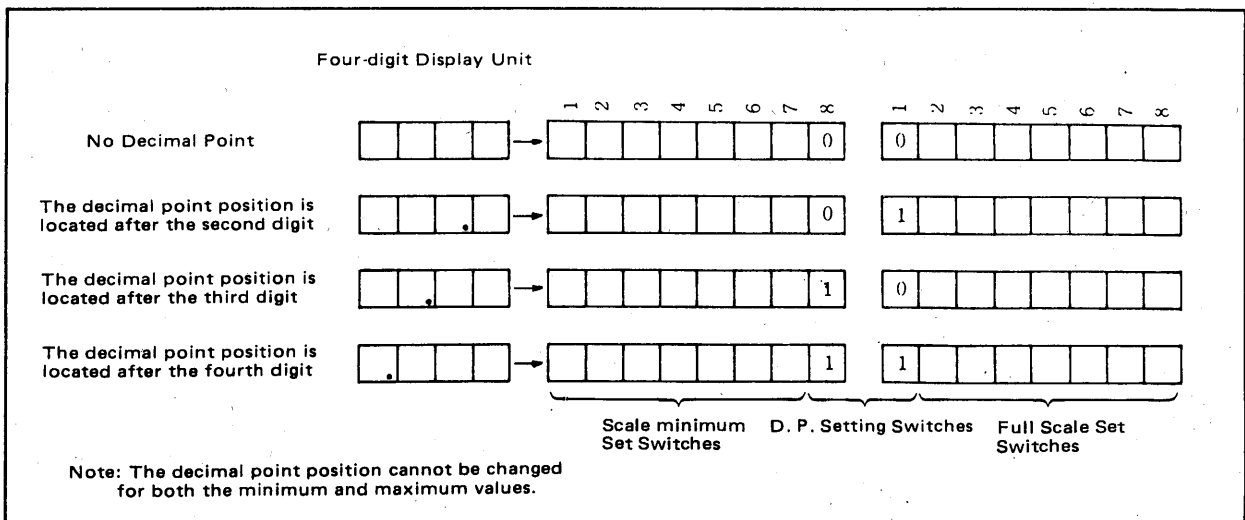

Figure 6-8. Decimal Point Position Setting.
Set No. 8 of SW1 (L) and No. 1 of SW2 (R) as follows depending on the decimal point position required. (See Figure 6-8).